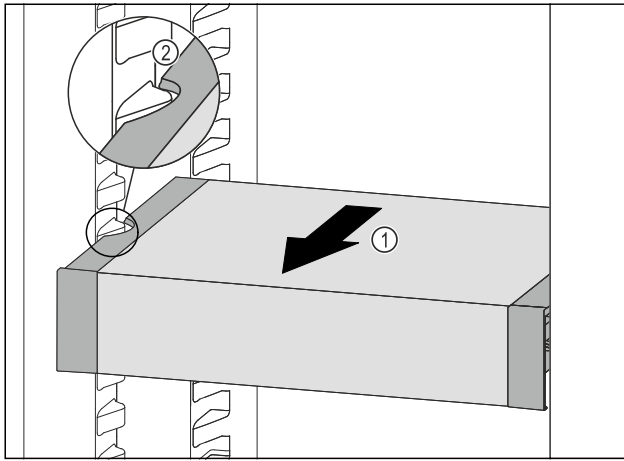

Fig. 84
- Pull VarioSafe forwards Fig. 84 (1) until the recesses in the side of the VarioSafe are at the level of the support rib in the fridge section. Fig. 84 (2)